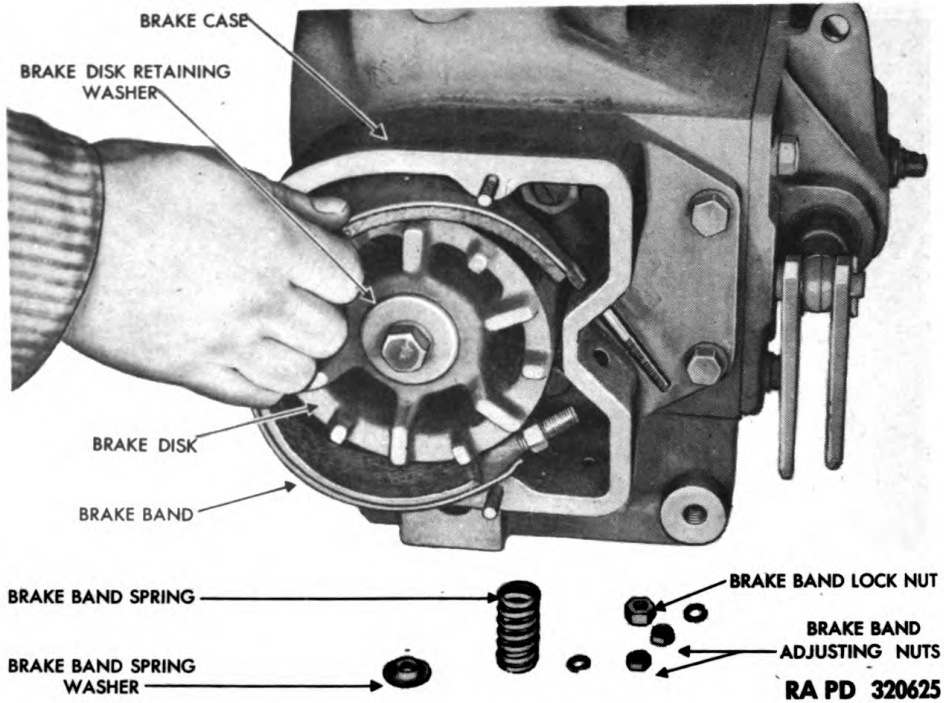

Figure 64 — Installing Gear Case Brake Band
d. Disassemble Brake Case. Remove two wing nuts and lock washers securing brake case cover to the brake case, and lift off the cover. Remove the brake band end adjusting nut and lock nut, and lift off the brake band spring and washer (fig. 57). Remove outer brake band anchor nut, and drive anchor end of the brake band into the brake case. Then lift the closed end of the brake band off the disk, tilt the band up, and pull the band free of the brake case (fig. 64). Remove the brake disk retaining cap screw, lock washer and retaining washer from the end of the drum shaft. Replace the cap screw to form a puller screw base. Position puller 41-P-2905-60 back of the brake disk, and with this base under the puller screw to prevent damaging the retainer cap screw threads, pull the disk off the shaft. Remove five $\frac{7}{16}$ -inch cap screws and lock washers, the blanking stud nut and lock washer, and tap brake case off gear case (fig. 58).
washers securing the gear case to the brake case, and slide the shim stock from between the oil seal and worm. Install the blanking stud lock washer and nut (fig. 58). Install worm brake disk key, and drive disk onto the worm until it shoulders on the shaft. Install the disk retaining washer lock washer and 1/2-inch disk retaining cap screw. Set the brake band anchor and adjusting ends through the gear case cover, and slide the band over the disk (fig. 64). Install the adjusting spring, spring washer, and adjusting nuts. Install the brake band anchor nut. Install the brake case cover, lock washers, and wing nuts.